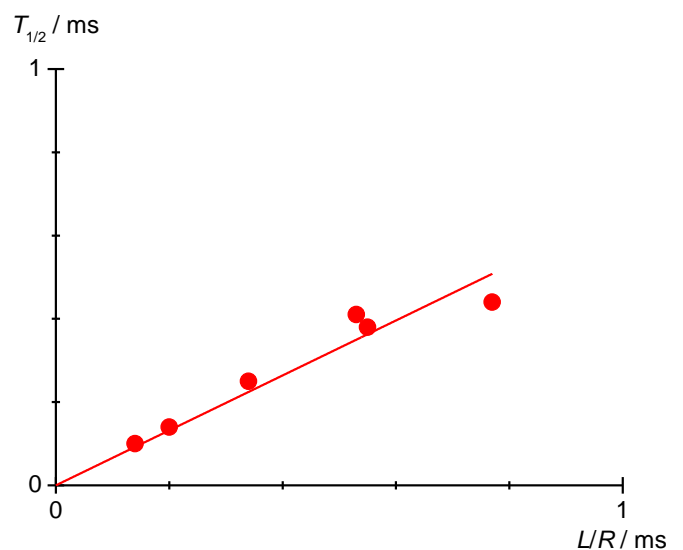

Fig. 6: Half-life  $T_{1/2}$  as a function of  $L/R$ .
- Plot the half-life periods  $T_{1/2}$  from Table 5 against the quotients  $L/R$  on a graph and fit a straight line through the origin (Fig. 6).
- To check equation (3) with the measured gradient  $m$ , compare it to the expected coefficient of proportionality  $\ln 2$ .